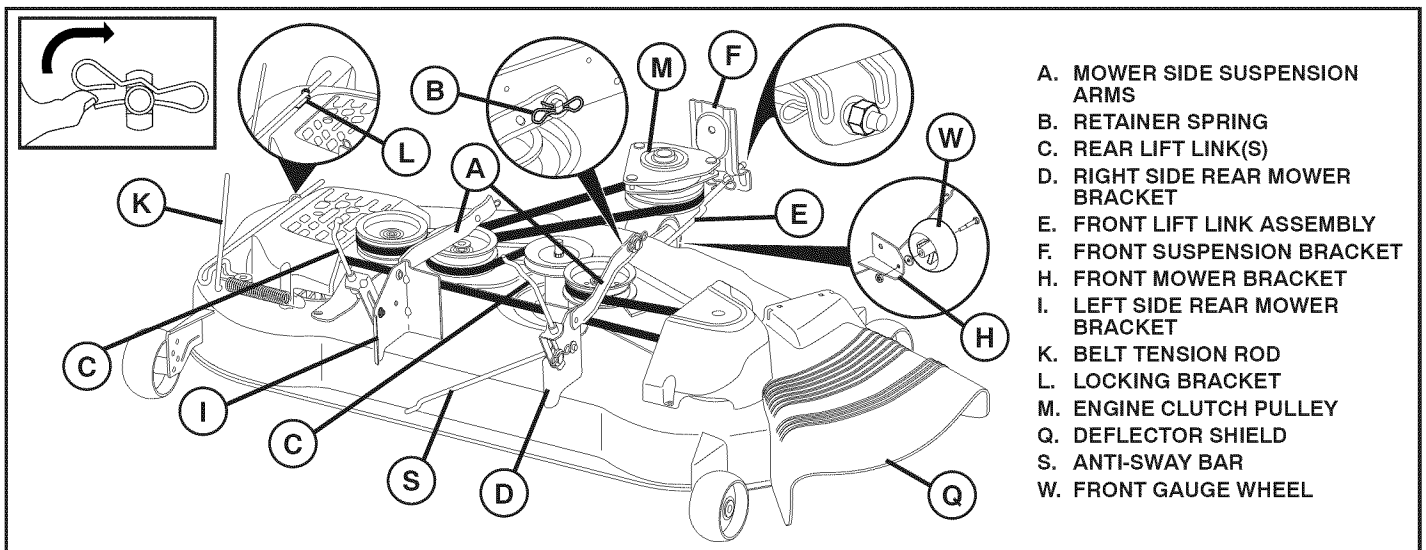

Fig. 9
## 9 INSTALL BELT ON ENGINE CLUTCH PULLEY (M) (See Fig. 9 & 15)
- Disengage belt tension rod (K) from locking bracket (L).
- Install belt onto engine clutch pulley (M).